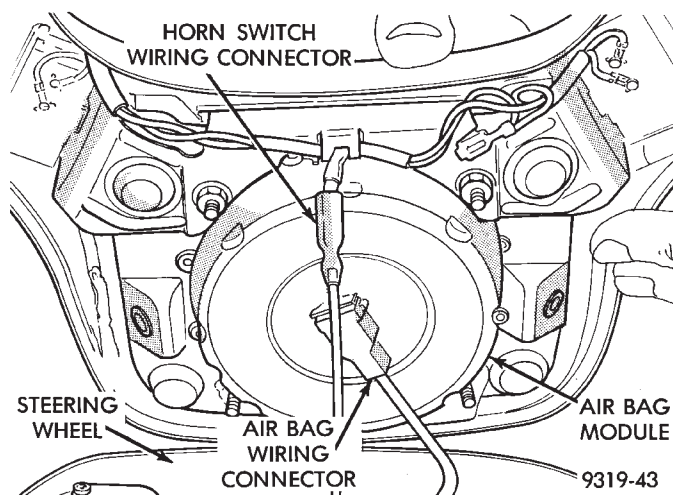

Fig. 4 Wiring Harness Connections To Air Bag Module
(5) Lift air bag module from steering wheel. Disconnect wiring harness connections (Fig. 4) from rear of air bag module and remove module from steering wheel.